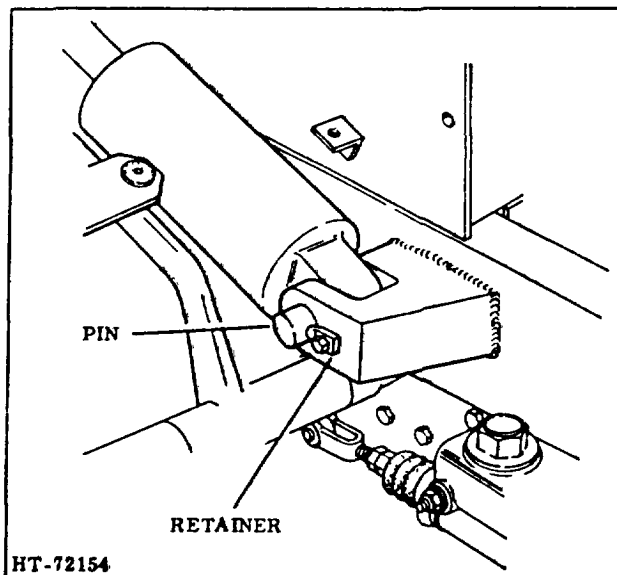

Figure 8. Tilt Cylinder Anchor Pin
5. Remove capscrew and pin retainer (Figure 8).